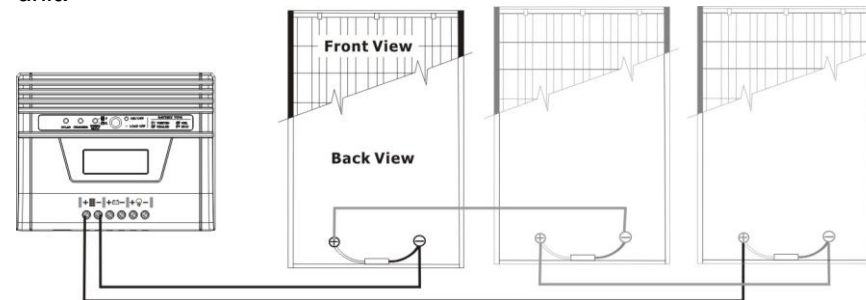

**Fig. 7**
**1) Single solar module connection (Refer to Fig. 7):** When using a single solar module, its voltage must not exceed the maximum solar module open circuit voltage (see below Table 1).